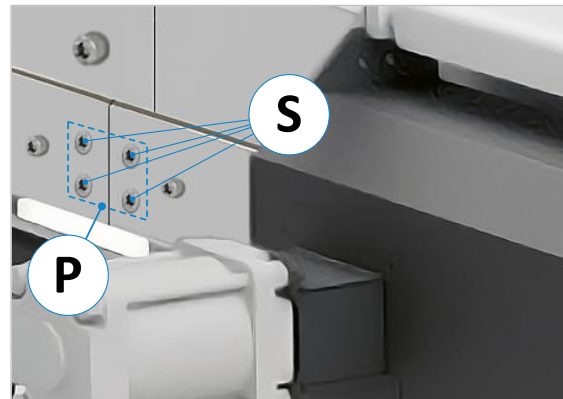

Figure 10: Connecting segments (rear side)
- EXAKT HD A and E only:** To attach the guide flat bars (F) for the stop system to each other at the joints, use one of the supplied connecting plates (P) with the four threaded holes for each joint (see \Rightarrow Figure 10). Attach them from the front resp. inner side and fasten them with an SW 6 Allen key from the rear side via the four Allen screws (S).